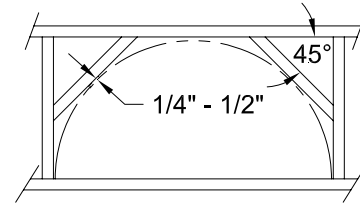

Fig. 1a
3. If installing a "half-round" or "elliptical" transom, you will need to install additional anchor points to secure the transom as shown in Fig.1a or Fig.1b. Installing a rectangular transom will be similar but without adding extra braces.
Use 2x4 material or as close to the width of the wall opening as possible and fasten down. For a "half-round" transom, place both braces so that they are in a 45° angle and spaced with 1/2" clearance above the transom jamb, as shown in Fig. 1a. For an "elliptical" transom, place both braces so that they are in a 20° angle and spaced with 1/2" clearance above the transom jamb as shown in Fig. 1b.